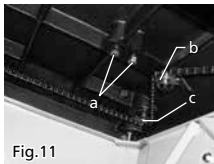

Fig.11
- Loosen two hex head bolts (b) that fasten the idler sprocket (c) to the base until you can turn each corner sprocket (d) independently. One of the corner sprockets is shown in Fig.11. **NOTICE:** If the chain drive is loosened too much, it will fall off all of the sprockets. Replacing a chain that has come off the sprockets is a very tedious process. Make sure to loosen the idler pulley just enough to allow you to be able to turn the corner sprockets.